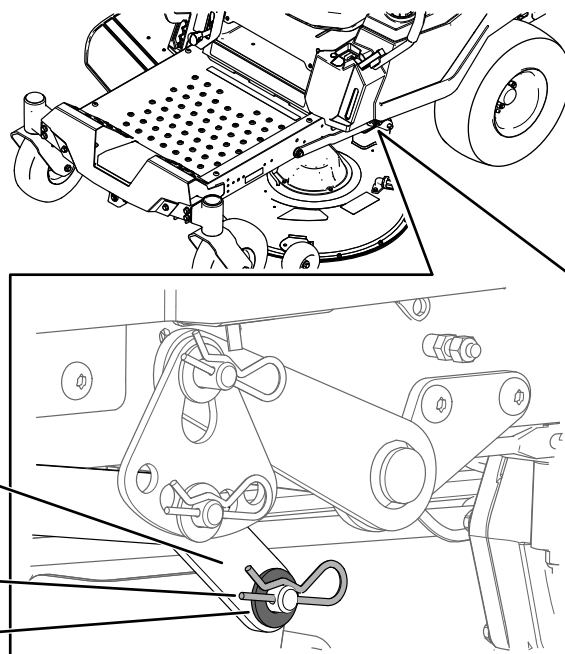

Figure 71
7. On 1 side of the machine, remove the washer and hairpin cotter from the deck pin (Figure 71).
8. Remove the lift arm from the deck pin (Figure 71).
5. On 1 side of the machine, lift the rear of the mower deck and install the lift arm to the deck pin (Figure 71).
6. Install the lift arm using the washer and hairpin cotter (Figure 71).